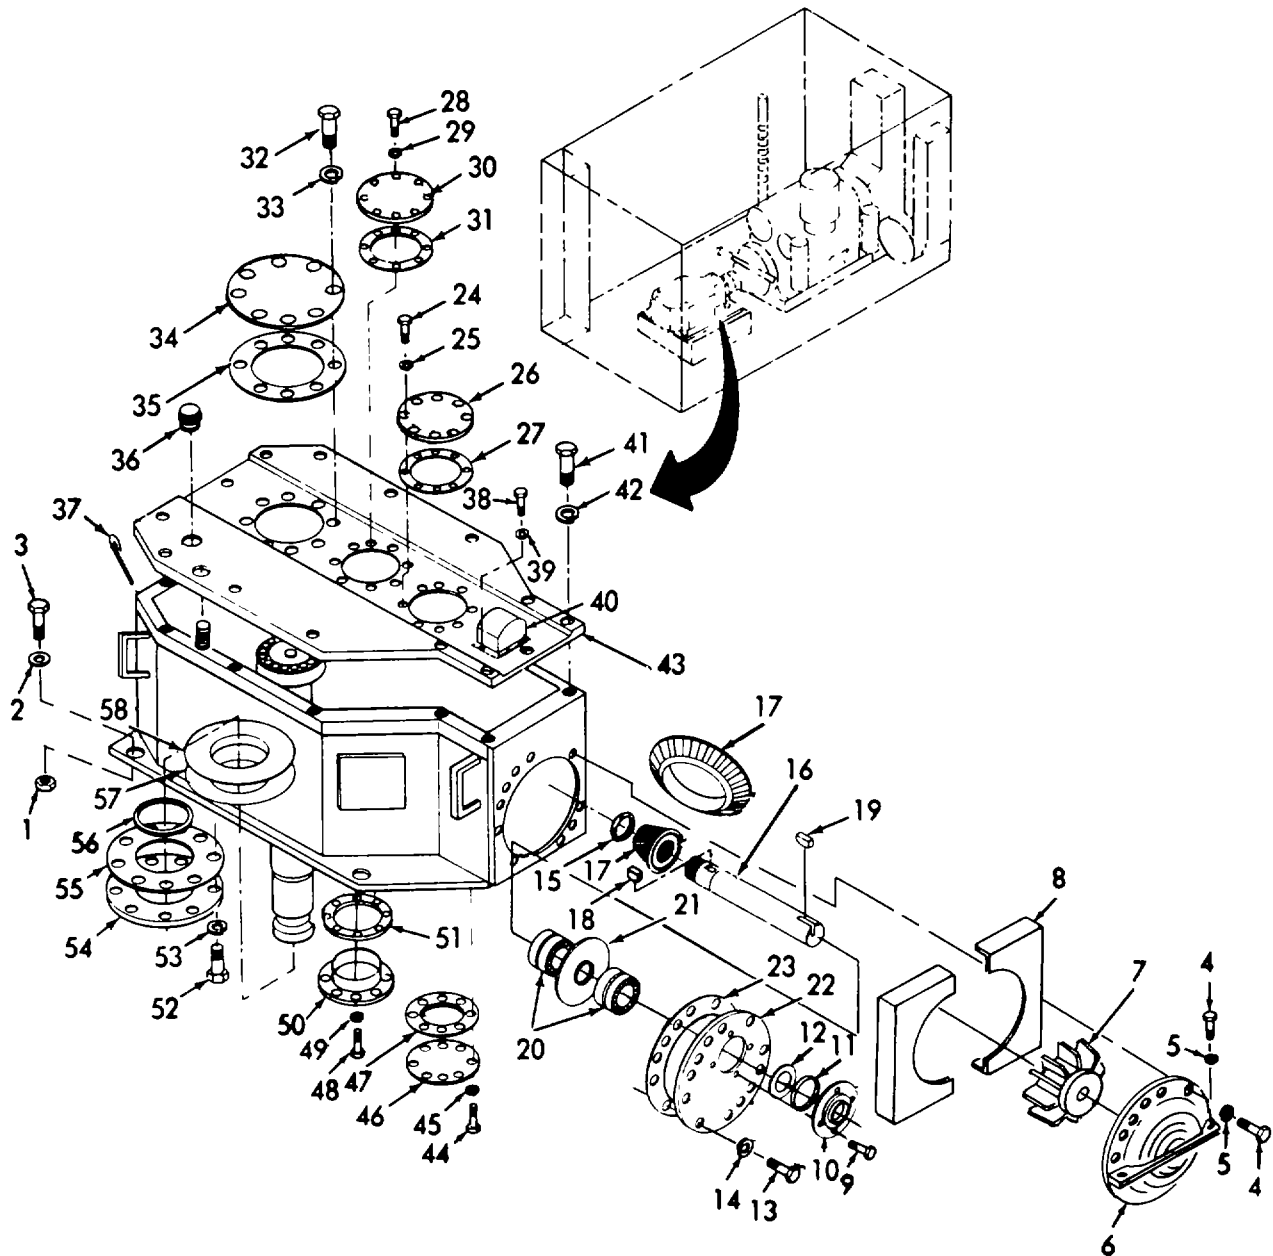

Figure 3-103. Speed Reducer Cover and High Speed Shaft.
- a. Removal. (Refer to figure 3-103).
- (1) Remove four nuts (1), four lockwashers (2), and four bolts (3).
- (2) Attach a sling to four lifting eyes on the speed reducer. Attach a lifting device, capable of lifting 750 lbs (340.50 Kg) to sling.
- (3) Slowly raise speed reducer until bottom shaft clears mounting base. Rotate speed reducer and remove from machinery house through the door.
- (4) Position wood blocks under speed reducer, lower lifting device and remove sling.
- (5) Refer to TM 55-1930-208-10, paragraph 3-1 and drain oil.
- (1) Refer to figure 3-103 and remove ten screws (4), ten lockwashers (5), and cover (6).
- (2) Remove fan (7) and baffle (8).
- (3) Remove four bolts (9) and cage (10). Remove seal (11) and ring (12).
- (4) Remove thirteen bolts (13), thirteen lockwashers (14), and remove high speed head assembly.
- (5) Mount head assembly in an arbor press with the bevel pinion up. Wrap shim stock around shaft extension and key to prevent damage to shaft.
- (6) Hold shaft with a wrench and remove nut (15).
- (7) Apply heat to bevel pinion ; press shaft (16) from pinion gear (17) and remove keys (18 and 19).
- (8) Press bearings (20) and slinger (21) from shaft. Remove head (22) and shim (23).
- (23) Refer to figure 3-103. Coat housing cover base with permatex (item 19, Appendix C). Install two eye bolts to cover (43). Attach a sling to eye bolts. Use a lifting device capable of lifting 150 lbs (68.10 Kg) and install cover (43). Secure cover with thirteen lockwashers (42) and thirteen bolts (41). Torque bolts to 1100 lb-in (125.12 Nm).
- (24) Install oil distributor (40) and secure with six lockwashers (39) and six bolts (38). Torque bolts to 255 lb-in (29.02 Nm).
- (25) Install dipstick (37) and breather (36).
- (26) Install shim gasket (35) and cover (34) and secure with eight lockwashers (33) and eight bolts (32). Torque bolts to 640 lb-in (62.80 Nm).
- (27) Install shim gasket (31) and cover (30) and secure with eight lockwashers (29) and eight bolts (28). Torque bolts to 255 lb-in (29.02 Nm).
- (28) Install shim gasket (27) and cover (26) and secure with eight lockwashers (25) and eight bolts (24). Torque bolts to 255 lb-in (29.02 Nm).
- (29) Install key (19) and fan (7) on shaft (16). Install baffle (8) and cover (6). Secure cover with two lockwashers (5) and eight screws (4).
- (30) Attach a sling to the four lifting eyes on the speed reducer. Attach a lifting device, capable of lifting 750 lbs (340.50 Kg) to sling.
- (31) Slowly raise speed reducer until bottom shaft clears bottom of machinery house door. Move speed reducer into machinery house. Rotate speed reducer and lower it on the mounting base, making sure the mounting holes are aligned.
- (32) Install four bolts (3), four lockwashers (2), and four nuts (1).
- (33) Refer to TM 55-1930-208-10, paragraph 3-1 and fill speed reducer with oil.